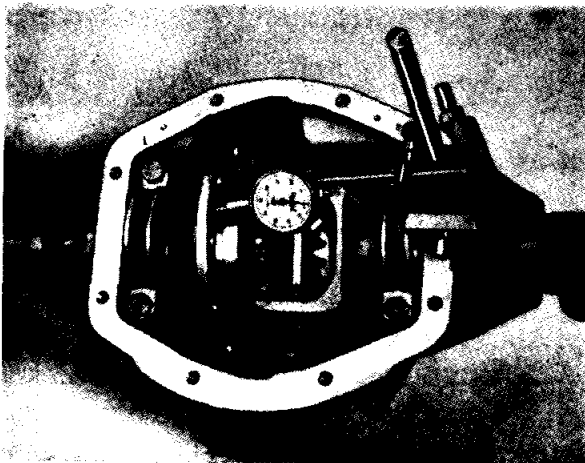

Fig. 17 Checking the run out of the crown wheel mounting flange utilising a D.T. 1.
- (o) Check the "run out" of the crown wheel mounting flange; this should not exceed .003" (Fig. 17). The crown wheel itself can be checked on a surface table with the aid of a set of feeler gauges. Having satisfactorily completed these checks, the differential